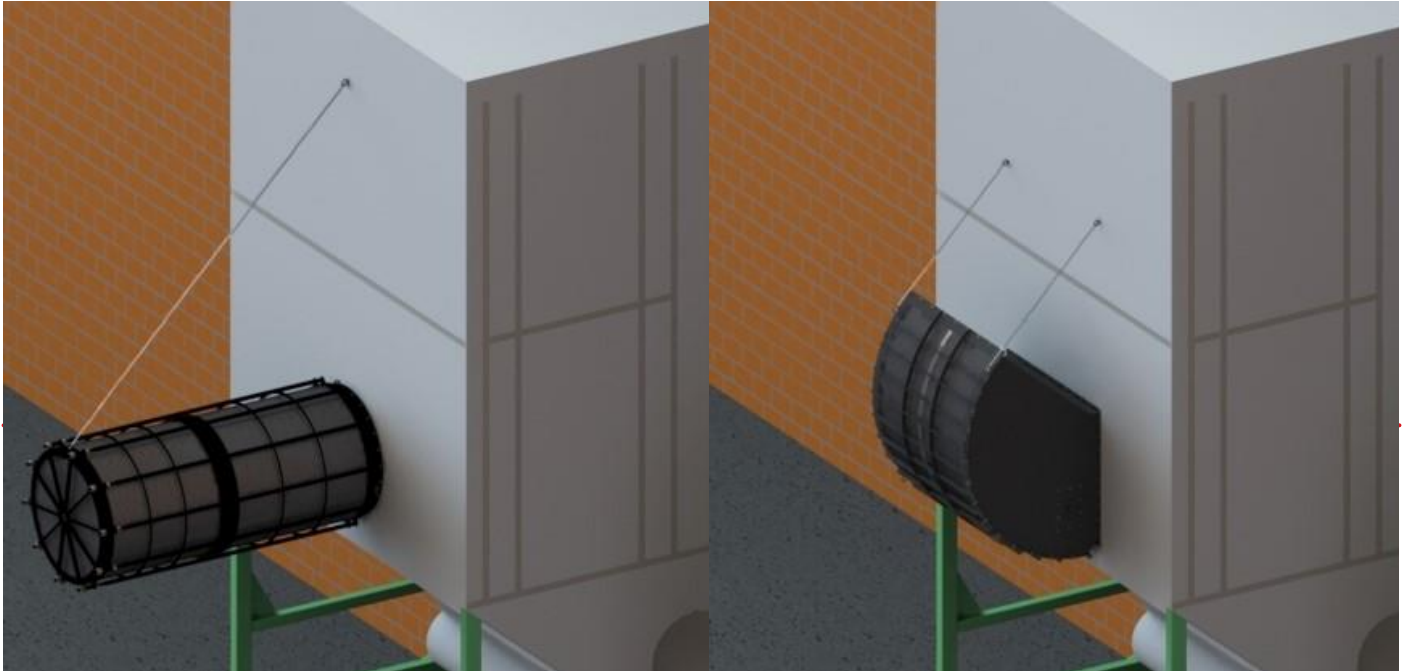

Figure 1 - recommended way of hanging (left FLEX C5 PRO; right FLEX II R 915x1118)
If the technology is protected by a FLEX II or FLEX PRO (S) flameless explosion venting device installed horizontally, the FLEX PRO (S) overhang has to be hung. This hanging must be done for the larger FLEX types see below. Figure 1 shows the recommended suspension method.